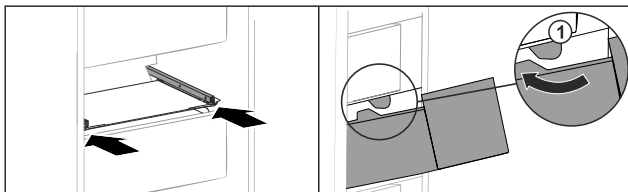

Fig. 216
- ▶ Guide drawer around the stoppers Fig. 216 (1).